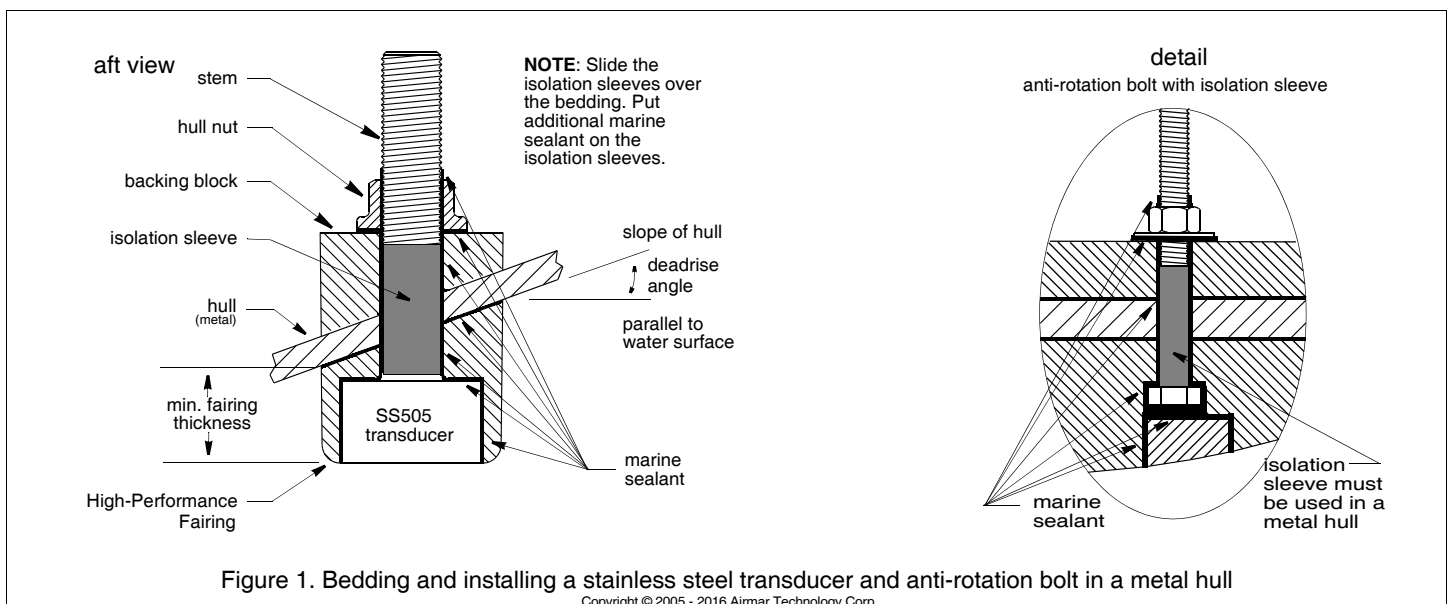

Figure 1. Bedding and installing a stainless steel transducer and anti-rotation bolt in a metal hull
1. Drill a 3mm or 1/8" pilot hole perpendicular to the waterline from inside the hull (Figure 1). If there is a rib, strut, or other hull irregularity near the selected mounting location, drill from the outside.
1. Measure the deadrise angle of the hull at the selected mounting location using an angle finder (Figure 1). *Check to be sure the angle does not exceed the maximum allowed (Specifications Table 1).*
4. Adjust the cutting fence, so the fairing will be cut in about two equal parts. There is a minimum thickness for the fairing at its thinnest dimension (Figure 1 and Specifications Table 1).
Stainless steel transducer/stem in a metal hull—Slide the isolation sleeve over the bedded transducer stem as far down as possible (Figure 1). Apply a 2mm (1/16") thick layer of the marine sealant to the outside of the sleeving.
Stainless steel transducer/stem in a metal hull—Be sure the isolation sleeve is between the transducer stem and the hull (Figure 1). However, the top of the isolation sleeve must be below the top of the backing block to prevent the sleeving from interfering with tightening the hull nut.
Stainless steel bolt in a metal hull—Slide the isolation sleeve over the bedded bolt as far down as possible (Figure 1 detail). Apply a 2mm (1/16") thick layer of the marine sealant to the outside of the sleeving.
Stainless steel bolt in a metal hull—Be sure the isolation sleeve is between the bolt and the hull (Figure 1 detail). However, the top of the isolation sleeve must be below the top of the backing block to prevent the sleeving from interfering with tightening the hull nut.